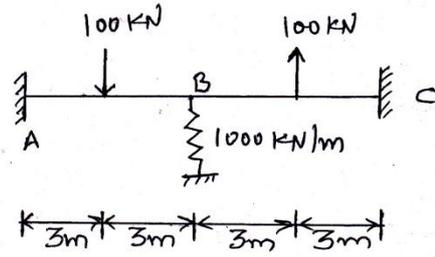

Figure 1
- Q.1 (a) For a continuous beam shown in Figure 1, obtain rearranged joint stiffness matrix. **07**
- (b) Calculate support reactions and the free joint displacements for the above beam as shown in Figure 1. **07**
- Q.5 (a) Obtain load vector for a beam shown in Figure 1 if (a) the temperature of member AB is increased such that bottom and top fibers are at 10^0 C and 20^0 C , **07**